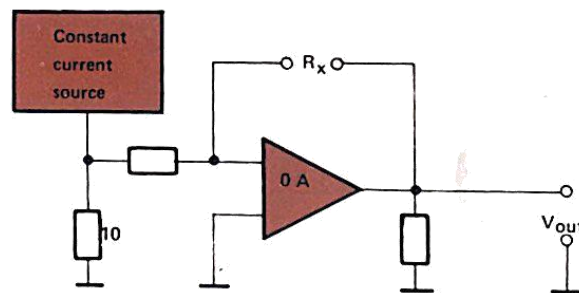

Fig. 4.9.
Q.4.2. The resistance-to-voltage converter of figure 4.9 is used to measure: